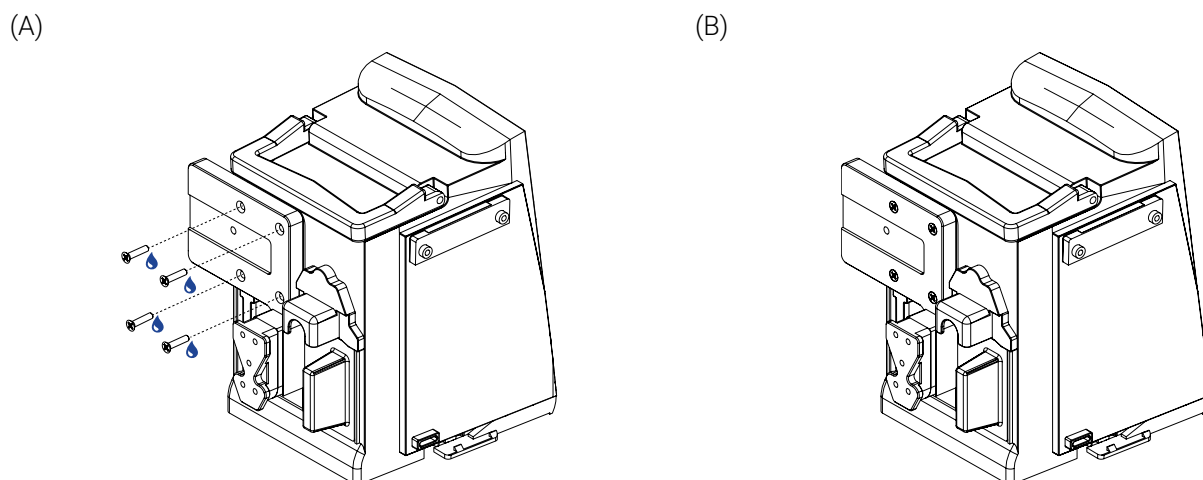

Figure 10: Installing the BP360–FQ on the PCU
3. Place the BP360–FQ on the PCU using the four (4) provided 8-32 X 3/4 in. L flat head screws coated with medium strength thread lock adhesive (🔹) and a Phillips-head screwdriver #2 (Figure 10).